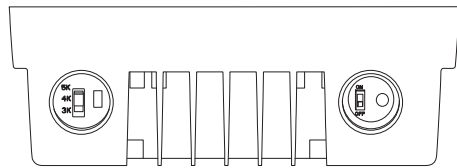

Fig: 6
2. Locate the **Selector Switches** on the fixture **Fig. 6,7**.